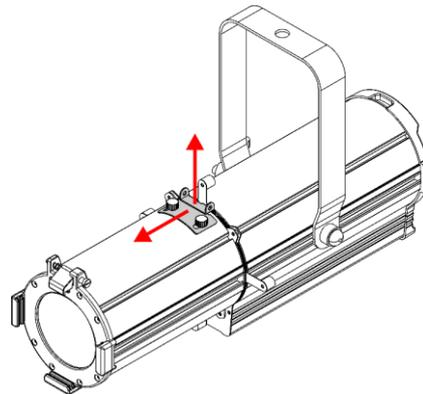

Fig. 11
- 02) Slide the **gobo slot cover plate (10)** towards the **lens (05)** (see Fig 11).